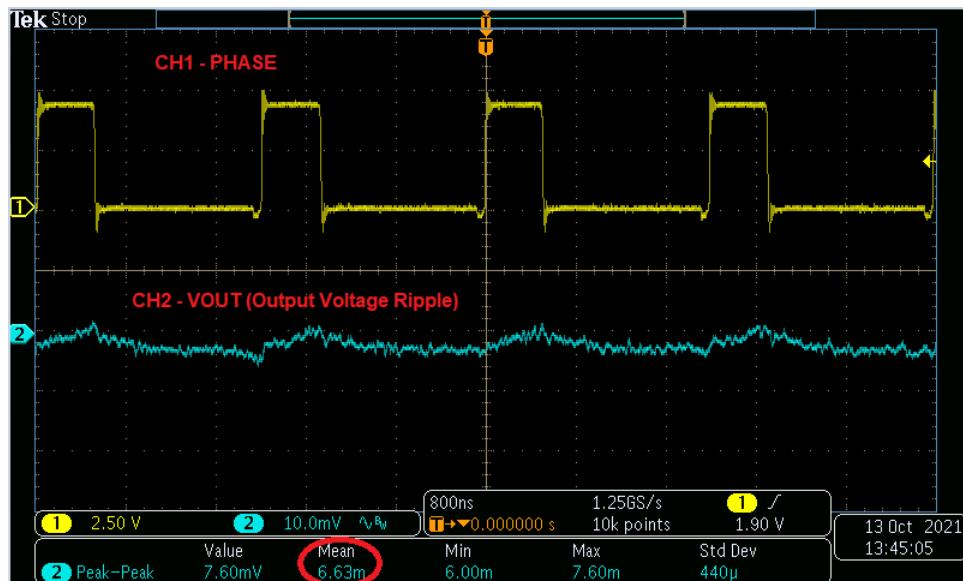

Figure 4-2. Output Voltage Ripple VIN = 5 V, VOUT = 1 V, IOUT = 18 A
Display CH1 (PH) and CH2 (VOUT) [AC coupled, BW = 20 MHz] on oscilloscope to monitor the switching phase node and the output voltage ripple as shown in Figure 4-2.